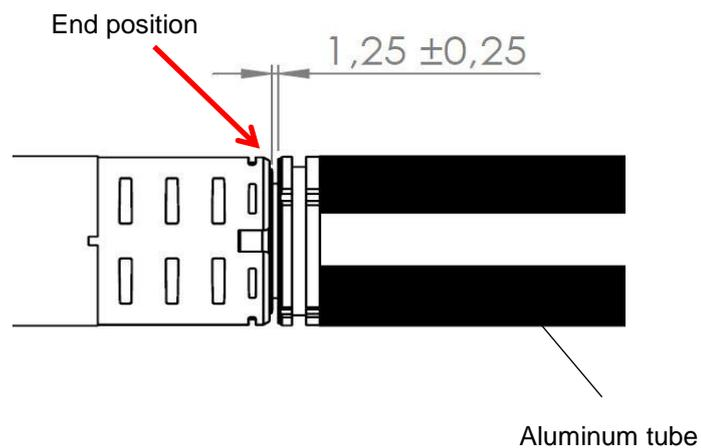

Figure 3: SLIMdrive-660S setup description for aluminum tube
2. Now untighten it for approx. 1/4 turn (approx. 1.25mm from end position, see Figure 3)